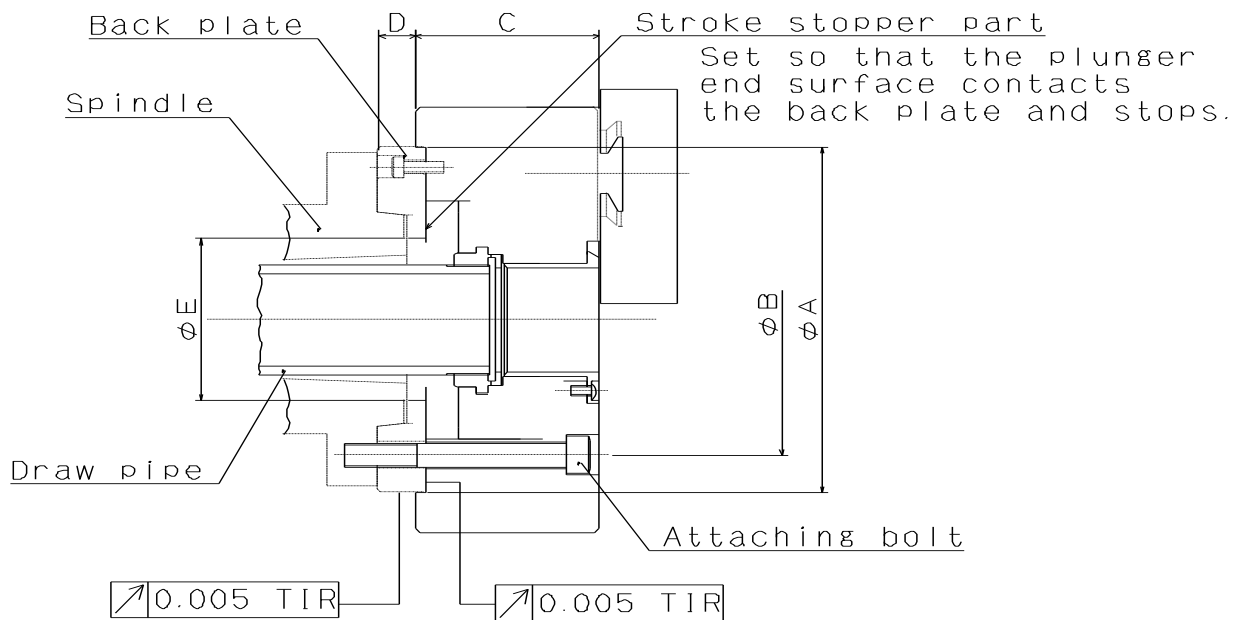

Fig.19
- Fig.19 shows the case of the JIS short taper standard.
- Determine the dimension (dimension  $\phi E$  in Fig.19) of the back plate so that the plunger nut end surface contacts the back plate and stops when pulling the plunger nut. If the stroke is larger than the one specified, it may cause a chuck breakage or gripping failure.